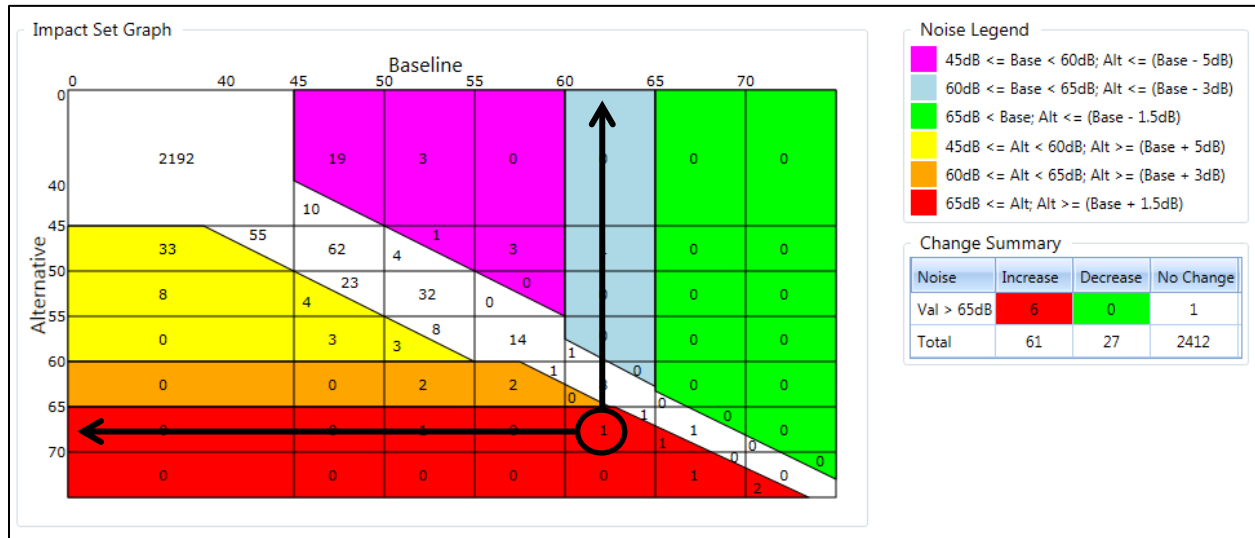

Figure 5-49 Sample Impact Set Graph
- The color coding of warm (red, orange, and yellow) and cool (purple, blue, and green) colors allows easy reference when there has been a reduction or an increase in noise (Figure 5-49).
- Example (Figure 5-49):